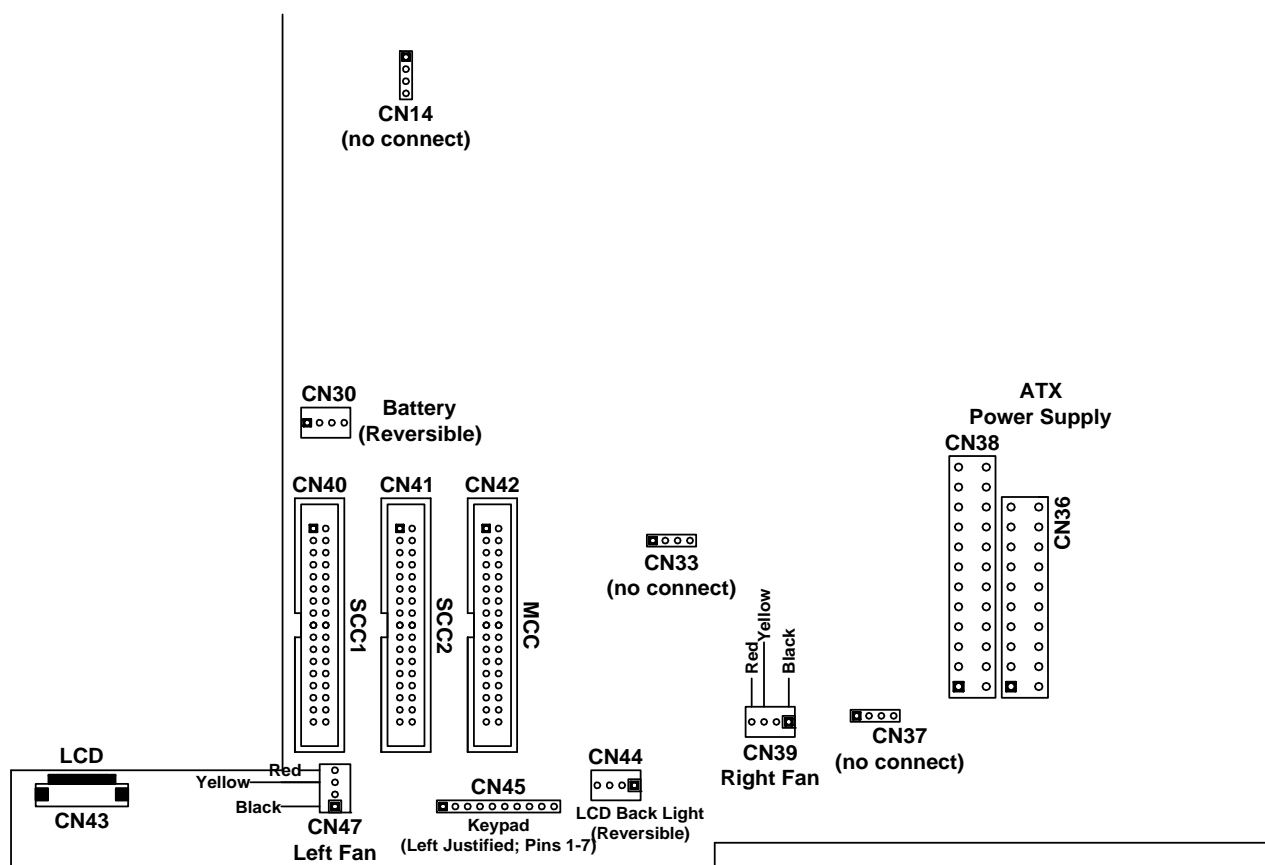

Figure 4 View showing connector locations on the PCC
- 4.6.4 Disconnect the two fan connectors (CN47 and CN39), the keypad connector (CN45) and the Back Light connector (CN44). Note that when reconnecting the front plate the 7 pin Keypad cable should be left justified when connected to CN45. (See Figure 4)